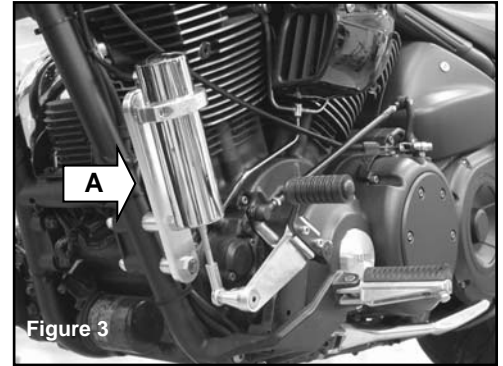
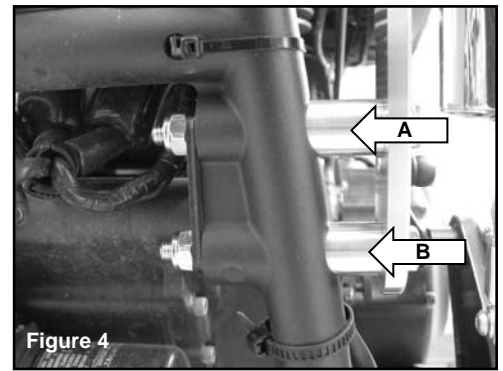
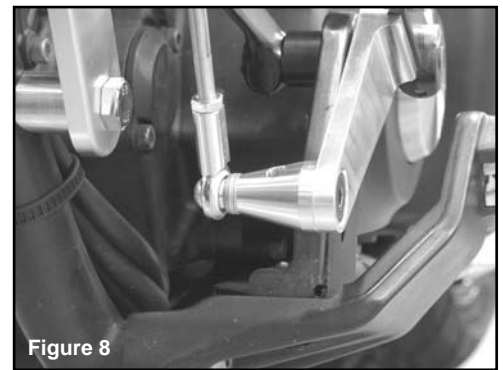

Figure 3
Figure 4
Figure 8
An aluminum shift cylinder support bracket, (A) in figure 3, with half of the Pingel shift cylinder clamp will be mounted to the frame. This support bracket mounts into the two stock holes located where the left side lower and upper frames connect. Remove the two stock nuts and bolts as well as the metal backing plate to install the support bracket. Insert a 10mm x 100mm hex head screw through the top hole of the bracket and through the .875 (diameter) x .396 (id) x 1.36 (length) spacer supplied, (A) in figure 4. Insert the other 10mm x 100mm hex head screw through the bottom hole of the bracket and through the .875 (diameter) x .396 (id) x 1.20 (length) spacer supplied, (B) in figure 4. Insert this assembly into the bolt holes of the frame and apply the metal backing plate. Secure the assembly to the frame with the supplied nyloc nuts and tighten.
Install the electric shift cylinder onto the shift cylinder support bracket using the Pingel clamp and (2) 1/4-20 x 3/4" socket head cap screws as shown in figure 3. Just snug these bolts for now, as adjustment will be needed later. The rod end on the shift cylinder should be able to go past the point of mounting in each direction sideways. The point of mounting is that flat surface upon which the rod end bolts to the shift lever bracket allowing for the thin flat 1/4" washer(s) if needed (four are supplied, use as many as required to achieve proper alignment). It is imperative that there is no side pressure or tension on the electric shift cylinder shaft when it meets its flat surface upon the Pingel shift peg bracket when it is bolted as this would take away valuable power from the electric shift cylinder resulting in binding and missed shifts. If the rod end does not line up correctly, you can either add another thin 1/4" flat washer to the existing washers to move the rod end away from the shift peg bracket, or remove one or more of the thin flat 1/4" washers to move the rod end closer to the shift peg bracket. Install the 1/4-20 x 1" button head socket cap screw through the 1/4" washer(s) and through the rod end of the electric shift cylinder. Apply thread locker and install into the threaded hole on the shift lever bracket, see figure 8.